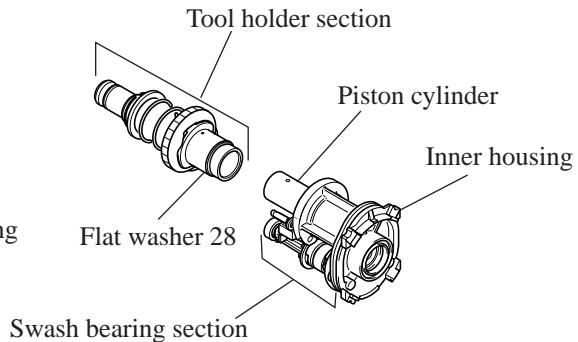

Fig. 8D
2. Separate tool holder section from inner housing as illustrated in Fig. 8D.